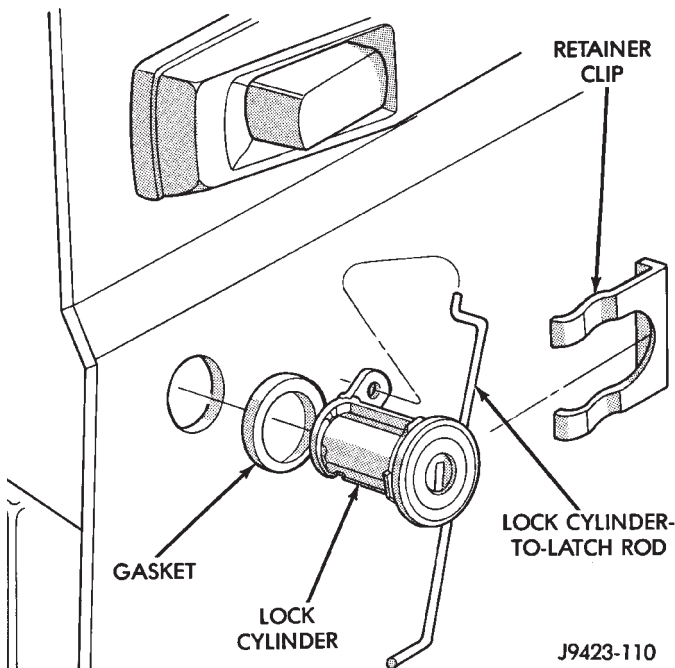

Fig. 70 Key Lock Cylinder Removal/Installation
(4) Remove the key lock cylinder retainer clip. Remove the lock cylinder, gasket and clip from the door opening (Fig. 70).